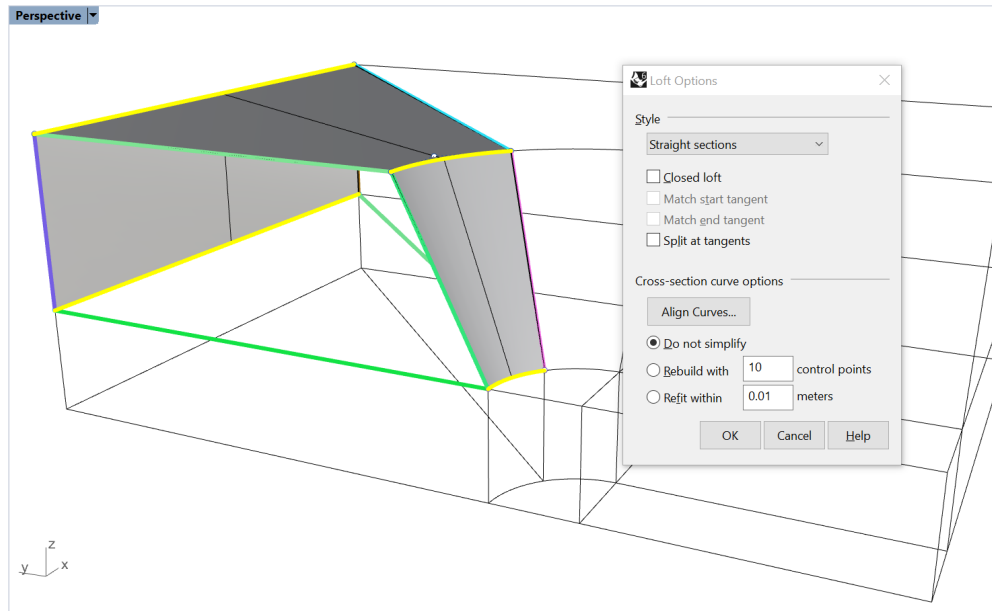

Figure 43: Building the surfaces for the first solid. Note that the grid has been hidden on this image.
14. Start creating a block at the top-left side of the model. Select the two arcs and two lines as shown in Figure 43 (selected lines are in yellow), type the **\_Loft** command and use the settings shown in the right side of Figure 43. Click **OK** to build a lofted polysurface between the several curves. Alternatively, a single surface can be built between each pair of curves/lines.